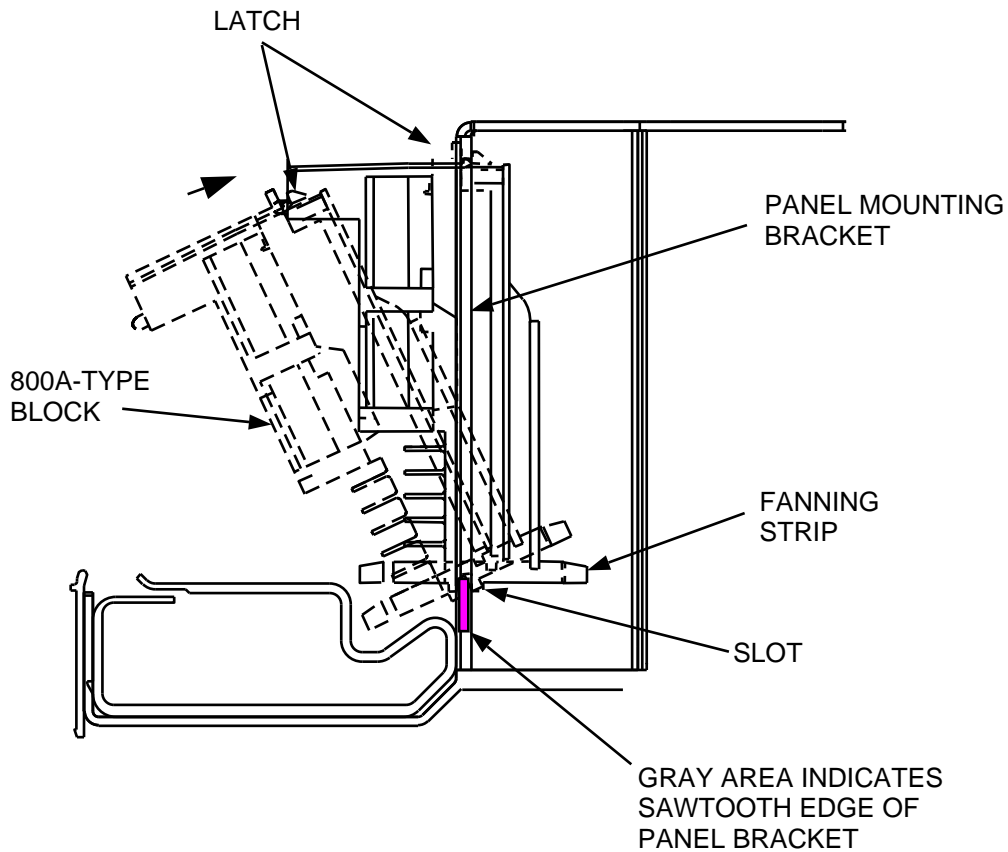

Figure 1. Installing 800A-Type Connecting Block
2. Lift and rotate the block upward, placing slot at bottom of fanning strip onto sawtooth ledge of panel mounting bracket (see Figure 1).